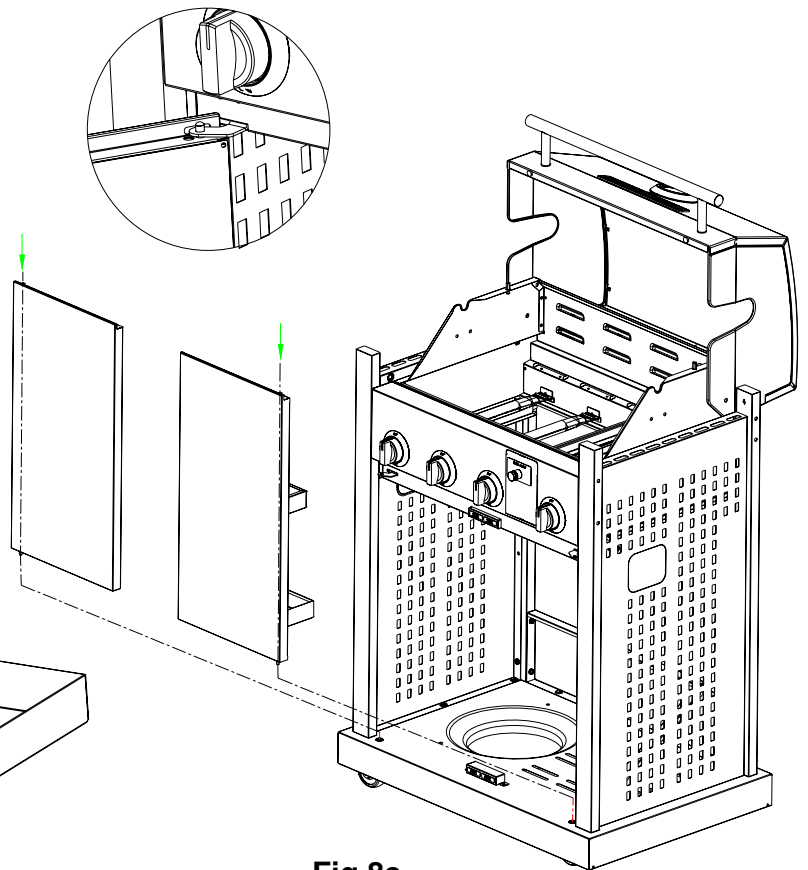

Fig.8c
2. Insert the lower left door pin into the hole on the bottom shelf. Push down the upper door pin, aligning it beneath the hole in door pin bracket, and release pin so that it inserts into the hole as shown in Fig.8c.